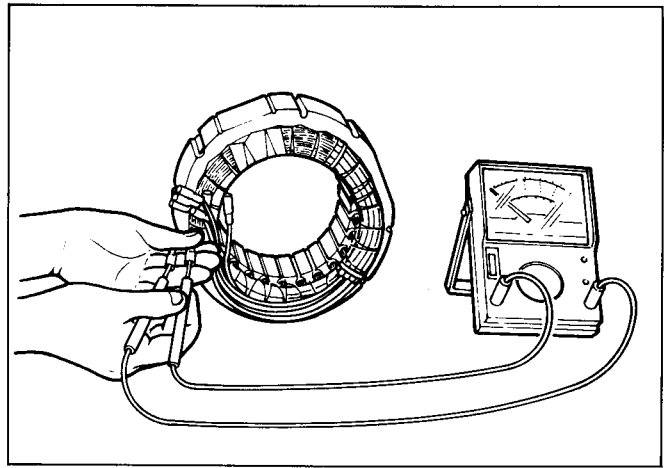

Fig. 11-1
- Measure the resistance between terminals on stator leads. (See Fig. 11-1.) Refer to Table 9-1 for normal resistance. If stator is faulty, replace with a new one.